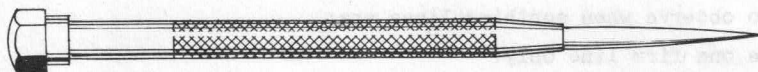

FIG. 17. GENERAL PURPOSE SCRIBER.
5.5 SCRIBERS. Marking out lines must be sharp and clear and this requires the use of a sharp, hard pointed tool or scriber. A general purpose type of scriber in common use is shown in Fig. 17.